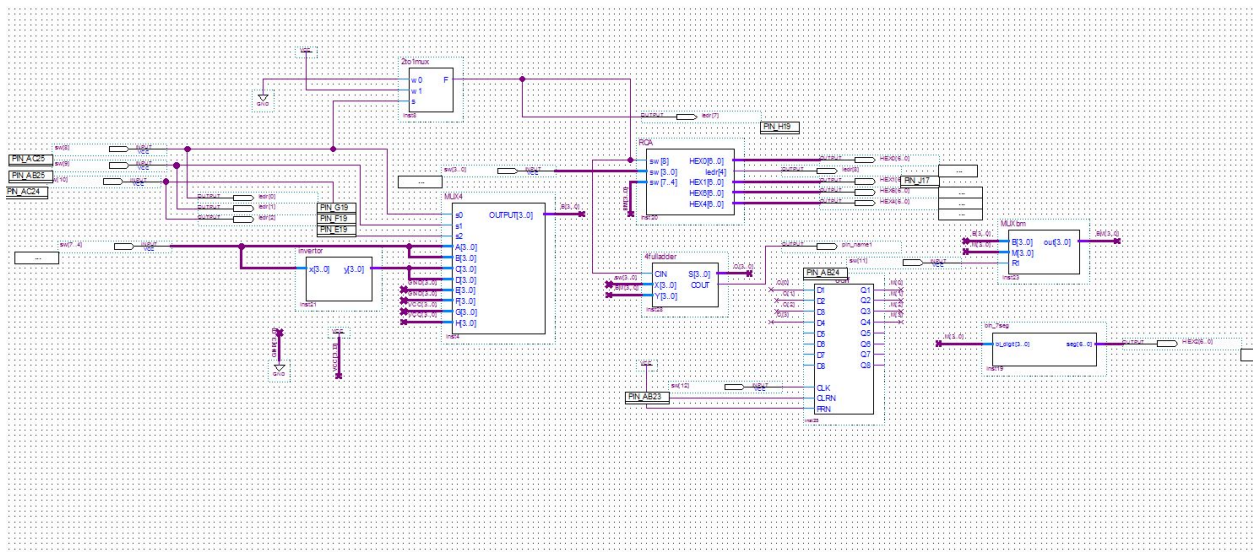
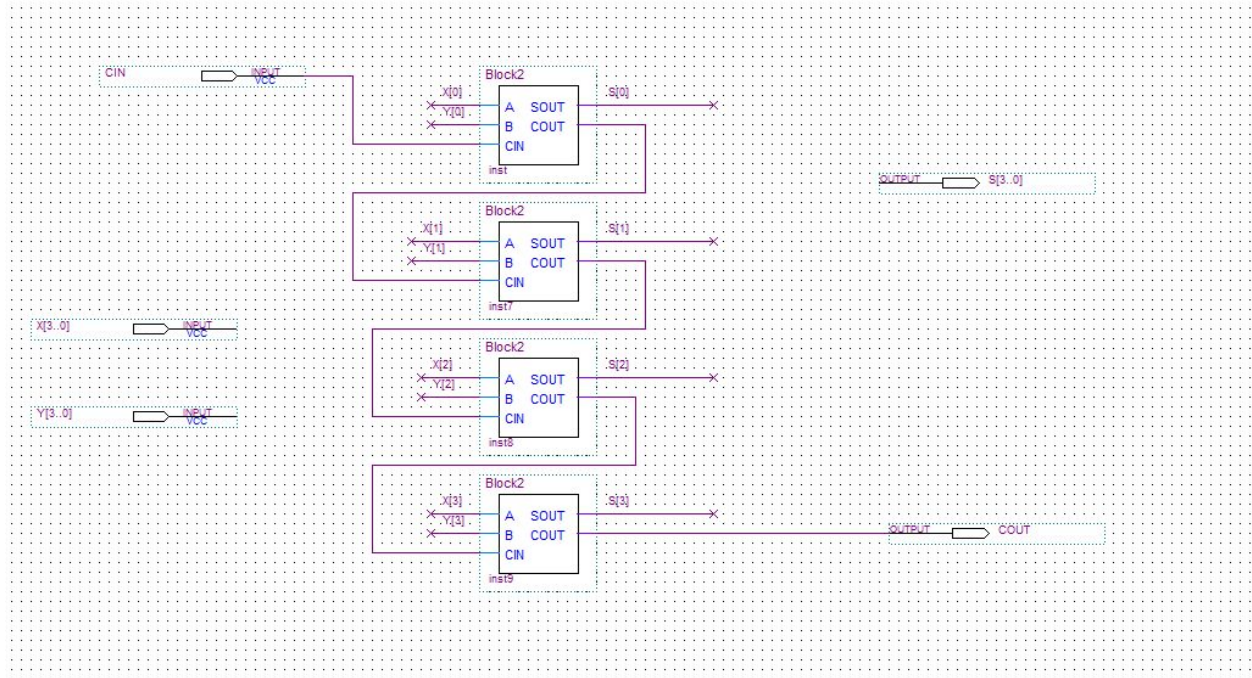
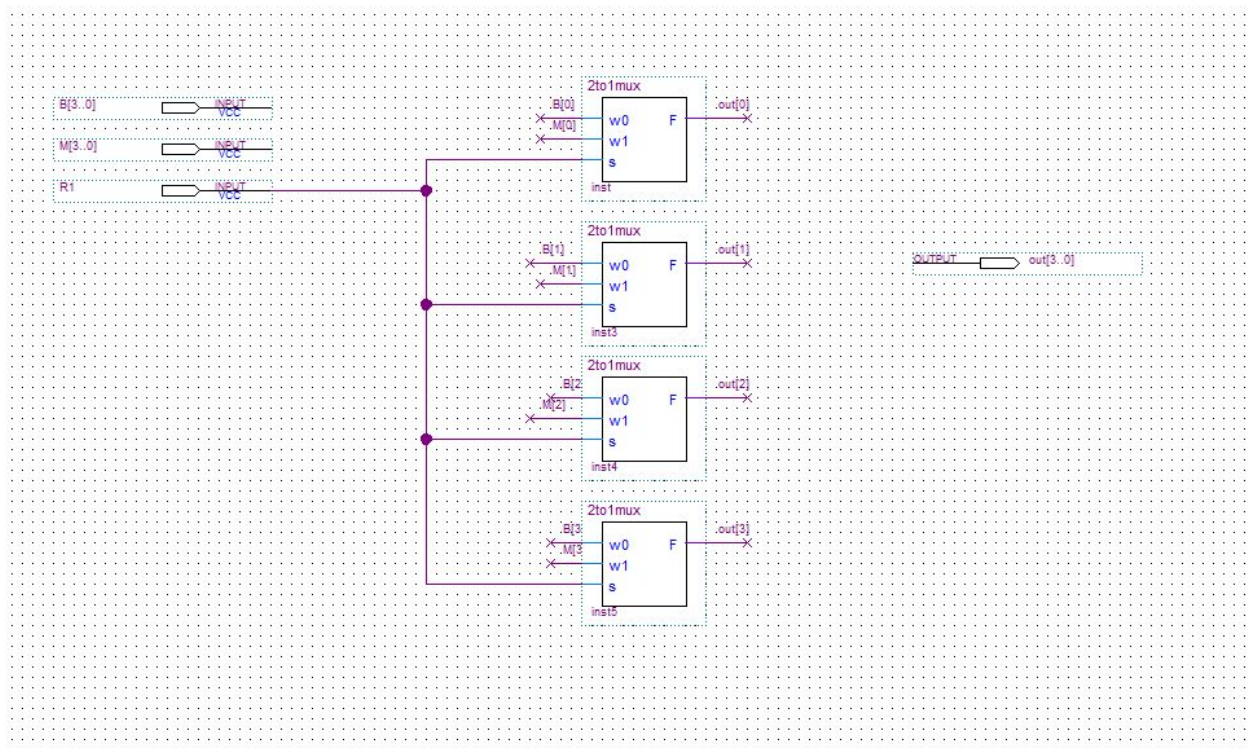

Figure 11. ALU with memory save component
Figure 12. 4-bit adder
Figure 13. MUXbm
1. Having the ALU that we just build, we add one *8dff* component to make one memory location to save the results of an arithmetic operation, and the final design is shown in Figure 11. Since we didn't have a 4-bit output in ALU, we build a 4-bit adder (as shown in Figure 12) with carry-in which will add  $A[3..0]$  and  $B[3..0]$  and the 4-bit output will be the inputs D1 to D4 in the *8dff* component. What's more, in order to implement the design that will choose either  $B[3..0]$  or the saved memory  $M[3..0]$ , we build a MUXbm (as shown in Figure 13) which will choose  $B[3..0]$  if the switch is 1, or  $M[3..0]$  if the switch is 0.